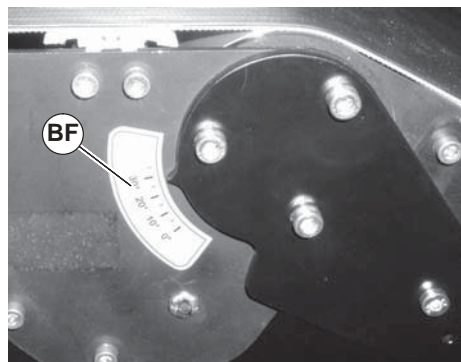

Figure 43
3. Move conveyor to desired angle as indicated by angle label (Figure 43, item BF).